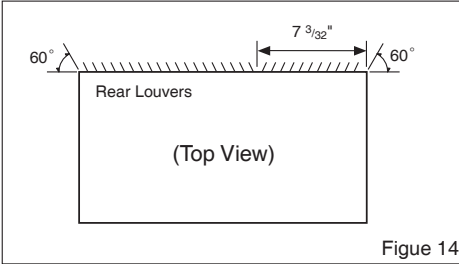

Figure 14
- 1 Redirect the louvers at the back of the wall sleeve to 60° angle as shown in the Figure 14. The use of pliers is recommended.